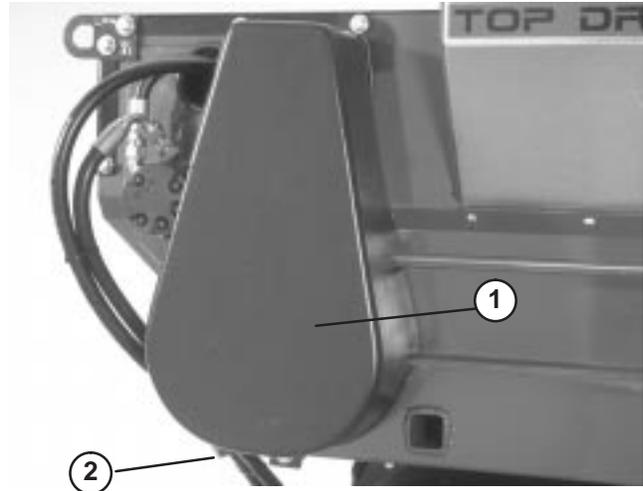

Figure 26
1. Remove chain cover, spacer and finger guard (Fig. 26).